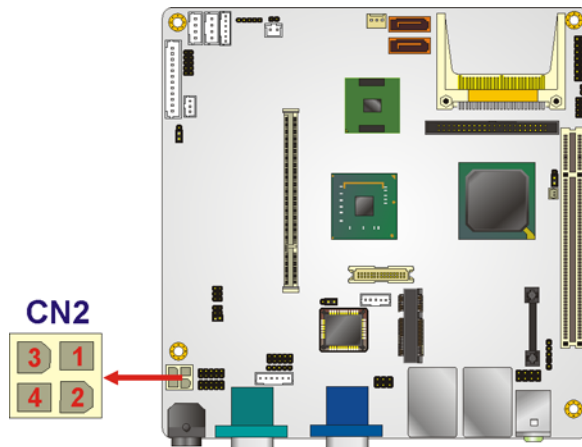

Figure 4-15: Power Connector Location
- CN Location:** See **Figure 4-15**